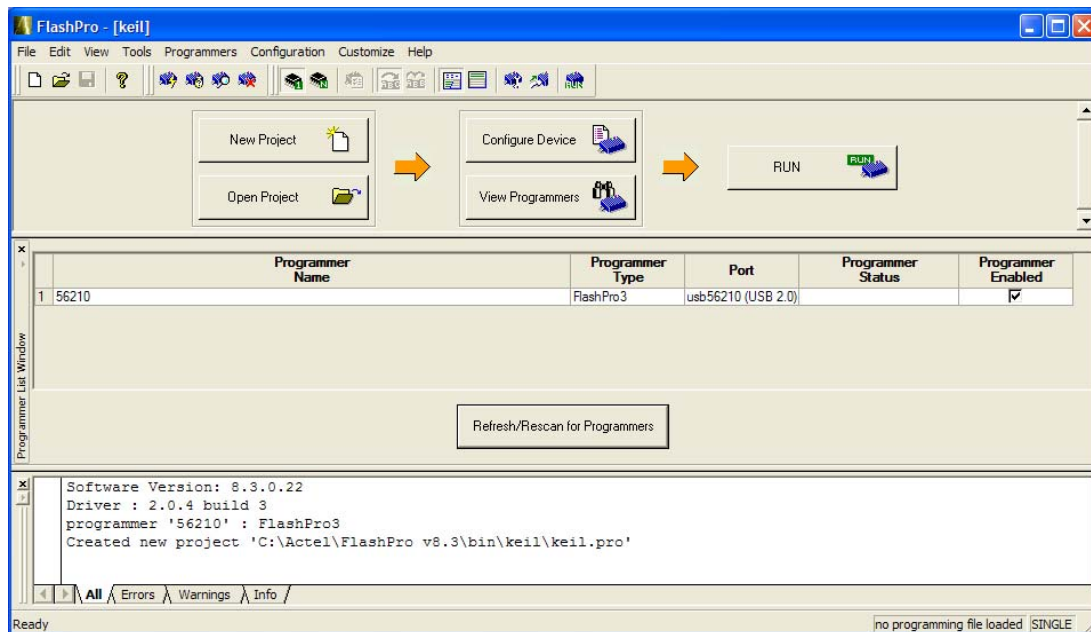

Figure 2 “New Project” completed and programmer detected.
- 3) Once the project has been created the FlashPro window will look like Figure 2. Note FlashPro has detected the M1A3P board and its USB port.